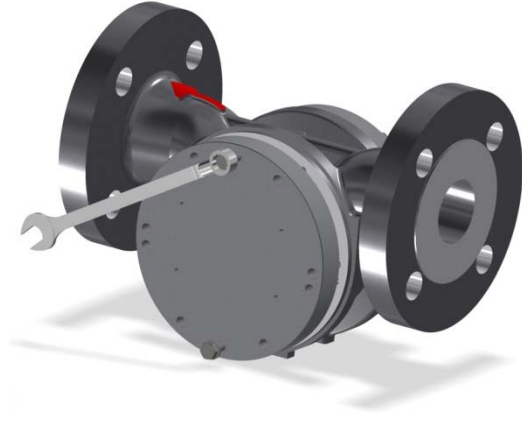

Figure 36 – Jacking up the back cover
2. Install 2 bolts, which were removed earlier, in the jacking positions of the front cover, as shown in Figure 36.